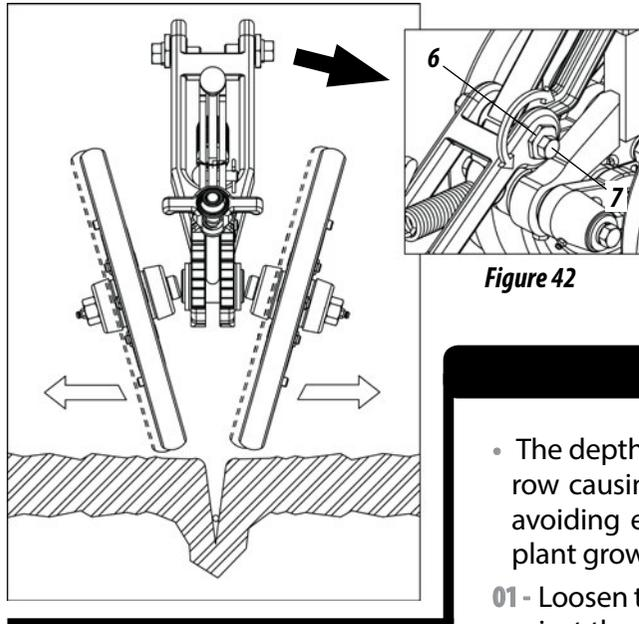

Figure 42
- For the horizontal displacement of wheels, they were developed with eccentric sleeves (5). For this setting, proceed as follows:
- 01 - Loosen the screws (7), turn the sleeves (6), with a key role for the alignment of the wheels with the furrow, placing greater or lesser amount of soil laterally to the seed as shown in Figure 42.